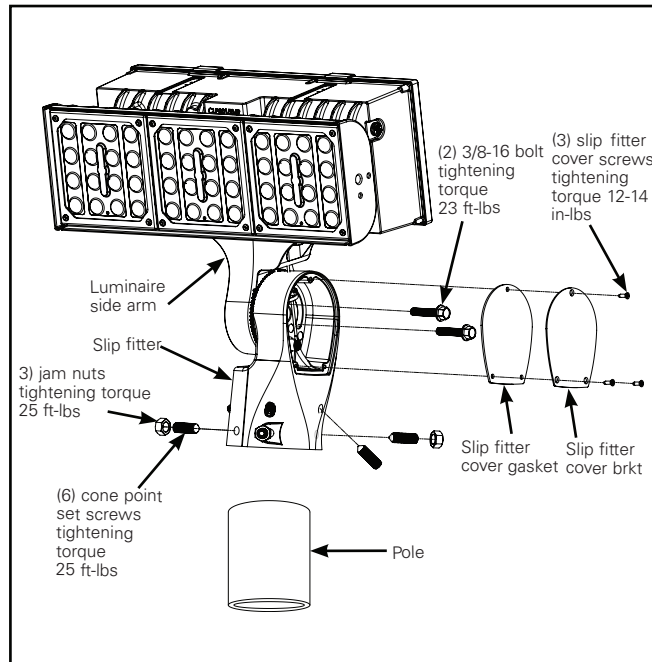

Figure 4.
Slip Fitter Mounting (Figure 4, 5)
4. Once fixture is oriented properly, hand tighten the (3) angled set screws to secure fixture in place. Hand tighten the lower (3) set screws and then torque the upper angled set screws to 25 ft-lbs. Install (3) hex nuts to the lower set screws and torque both the (3) set screws and (3) nuts to 25 ft-lbs (Fig 4)